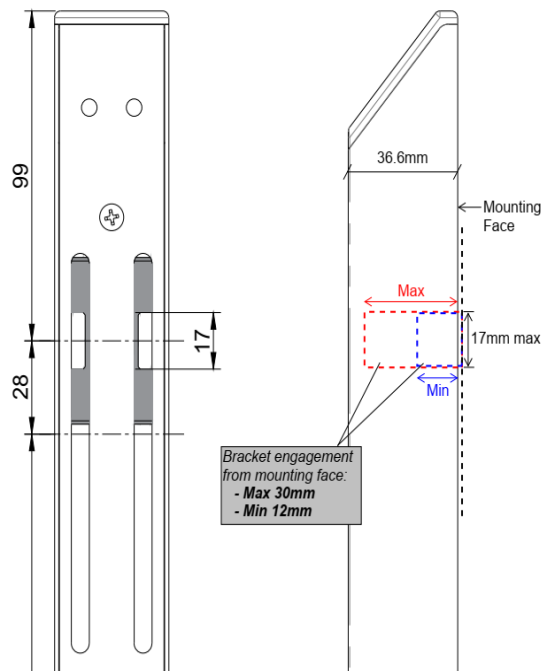

Figure 1 - Max/Min engagement with the bracket
- **Maximum Engagement:** The bracket should engage no more than 30 mm from the mounting face. Exceeding this limit may damage the actuator (see Figure 1).
- **Minimum Engagement:** The bracket must engage at least 12 mm from the mounting face. Engagement below this threshold may also result in actuator damage (see Figure 1).